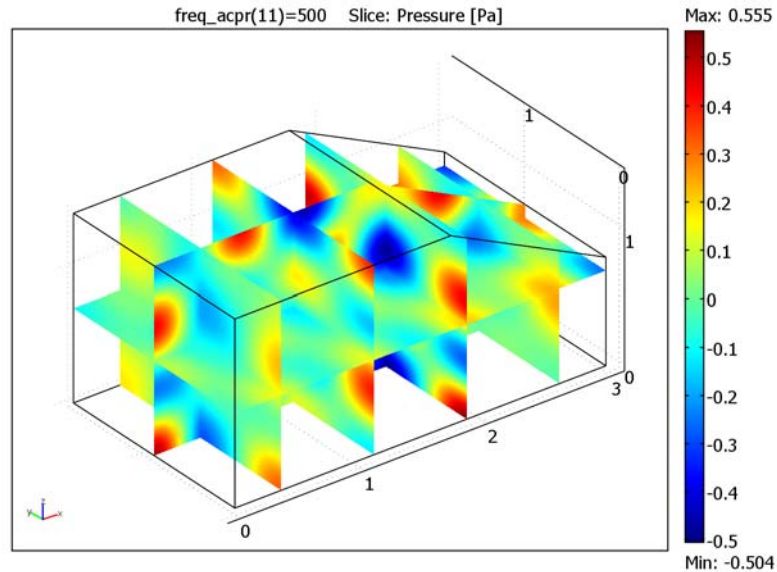

Figure 3-8: Slice plot of the sound pressure distribution at 500 Hz.
Figure 3-8 shows the sound pressure distribution in the car interior at 500 Hz.
- 3 Click **Apply** to see the plot, which should resemble the one in Figure 3-8.